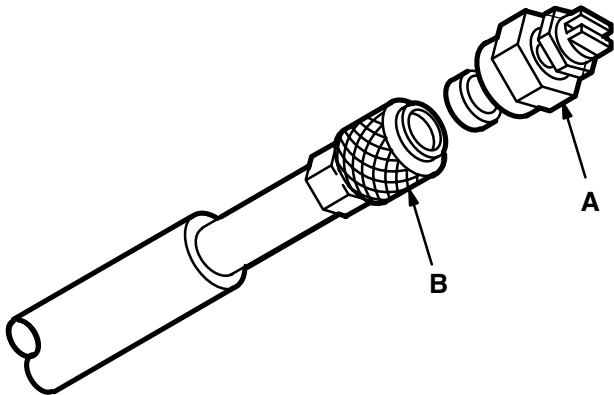

Figure 3
3. Without holding your hand over spray tip (A), pull back quick coupler ring (B). Remove old tip and/or install a new one, and then release ring. See Figure 3.